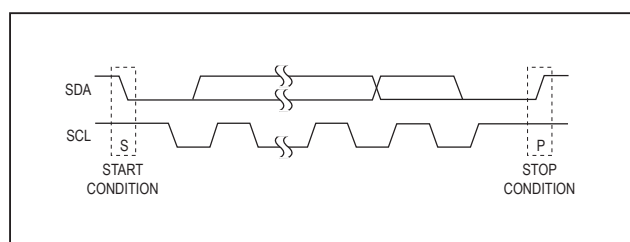

Figure 2. Start and Stop Conditions
Each transmission consists of a START condition sent by a master, followed by the MAX7326's 7-bit slave addresses plus R/ $\bar{W}$  bits, 1 or more data bytes, and finally a STOP condition (Figure 2).
Both SCL and SDA remain high when the interface is not busy. A master signals the beginning of a transmission with a START (S) condition by transitioning SDA from high to low while SCL is high. When the master has finished communicating with the slave, the master issues a STOP (P) condition by transitioning SDA from low to high while SCL is high. The bus is then free for another transmission (Figure 2).